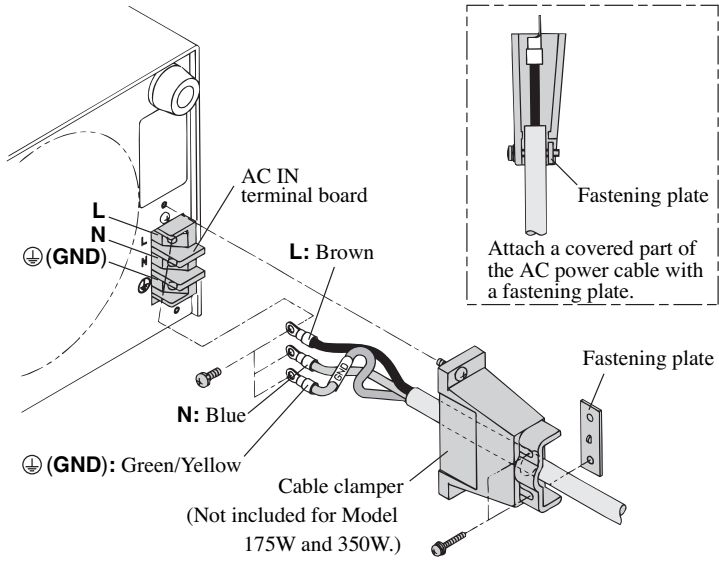

Fig.1-8 Connection of AC power code
1. Connect the supplied AC power code to the terminal board as shown in Fig.1-8.